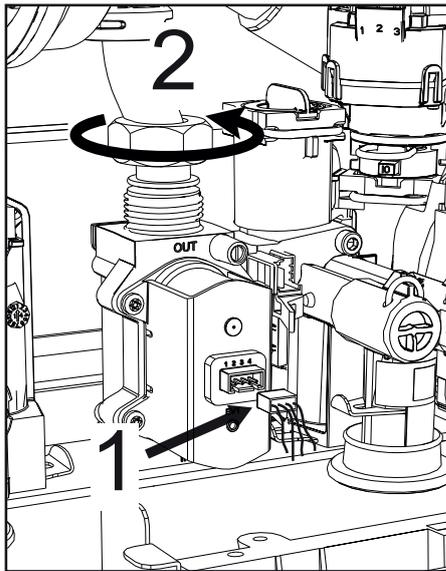

fig. 51 -
- Disconnect the electric connectors "1" ("fig. 51 -").
- Disconnect the gas supply pipe "2" ("fig. 51 -")